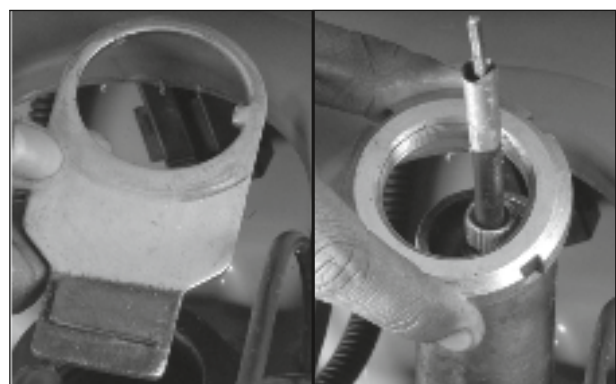

Fig. 2.111
- Assemble the friction plate assembly over the steering column in the designated groove and then assemble one more lock nut over the Friction plate. Tighten it to  $80 \pm 5$  Nm torque.(Fig. 2.111)